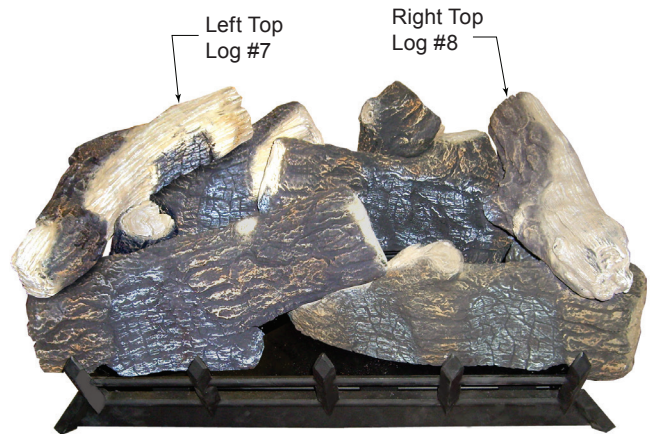

Figure 33. Place Right Top Log #8
7. Place left top log (#7) on left rear log (#4) and left front log (#5) using locating grooves on bottom of #7 and locating blocks on logs #4 and #5. Figure 33.
8. Place right top log (#8) onto right rear (#3) and right front (#2) logs using locator on bottom of right top log. Figure 33.